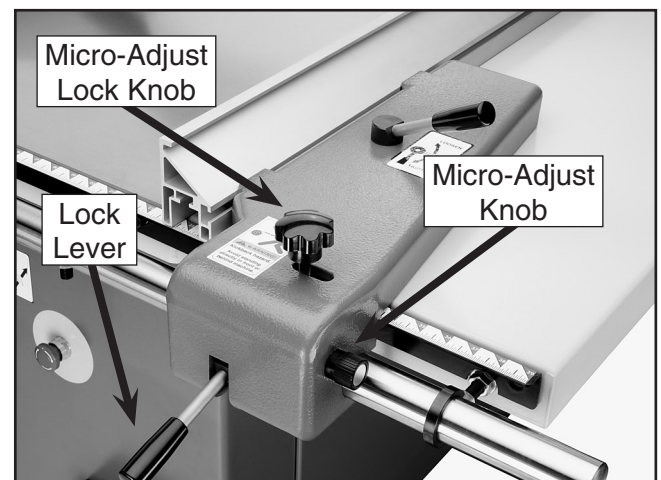

Figure 67. Rip fence micro-adjusting controls.
6. Tighten down the micro-adjust lock knob (**Figure 67**) and turn the micro-adjust knob to zero in on the desired width-of-cut.